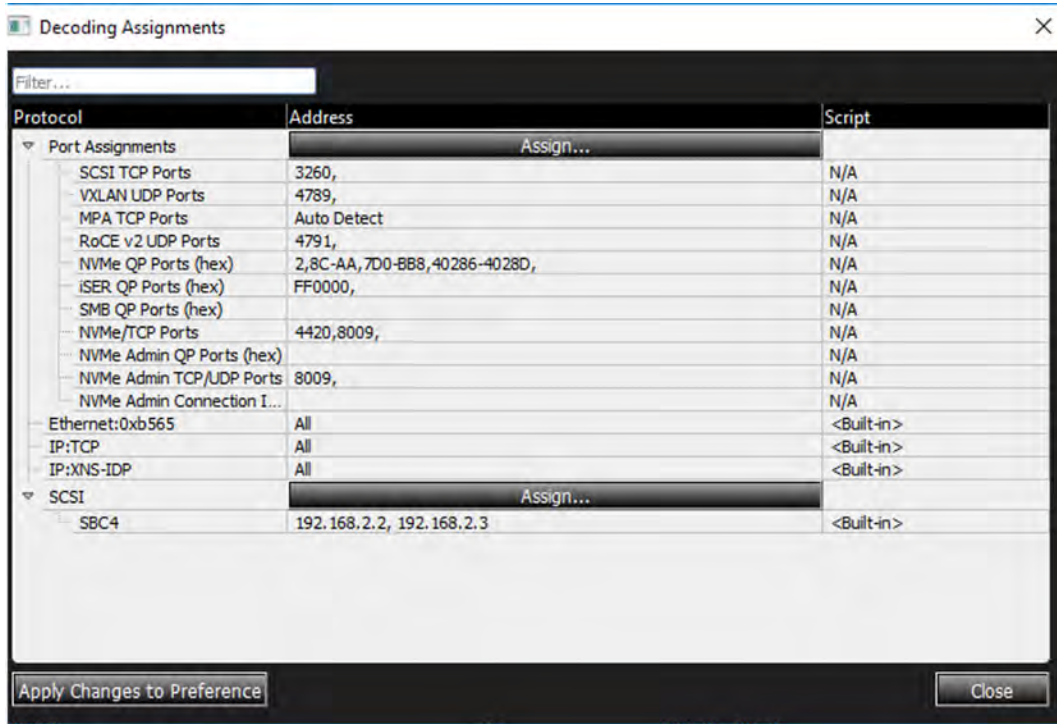

Figure G.6: Decoding Assignments Table
1. Go to the Analysis tab and click **Decoding Assignments**. Before any “NVMe QP ports (hex)” have been learned or added, the table could look something like the example in Figure G.6.